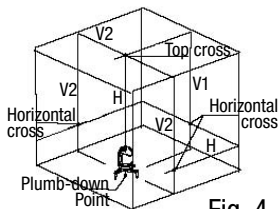

Fig. 4
5. When the horizontal line H, vertical line V1 and V2 are all lit, these three laser lines form four cross intersections. Among them, the top intersection is the plumb-up point of the unit, which constitutes plumb beam together with the plumb-down point. Three intersections on the horizontal line is the horizontal cross lines perpendicular to each other (Fig. 4).